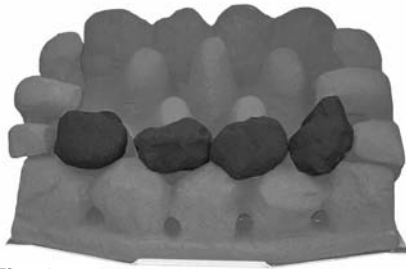

Fig. 17
5. Pick out the smallest two coals and lay to one side, lay the first row of four loose coals on top of the front coal. Ensure the back of the coals are resting on the coal bed and there are even gaps all round (Fig. 17).